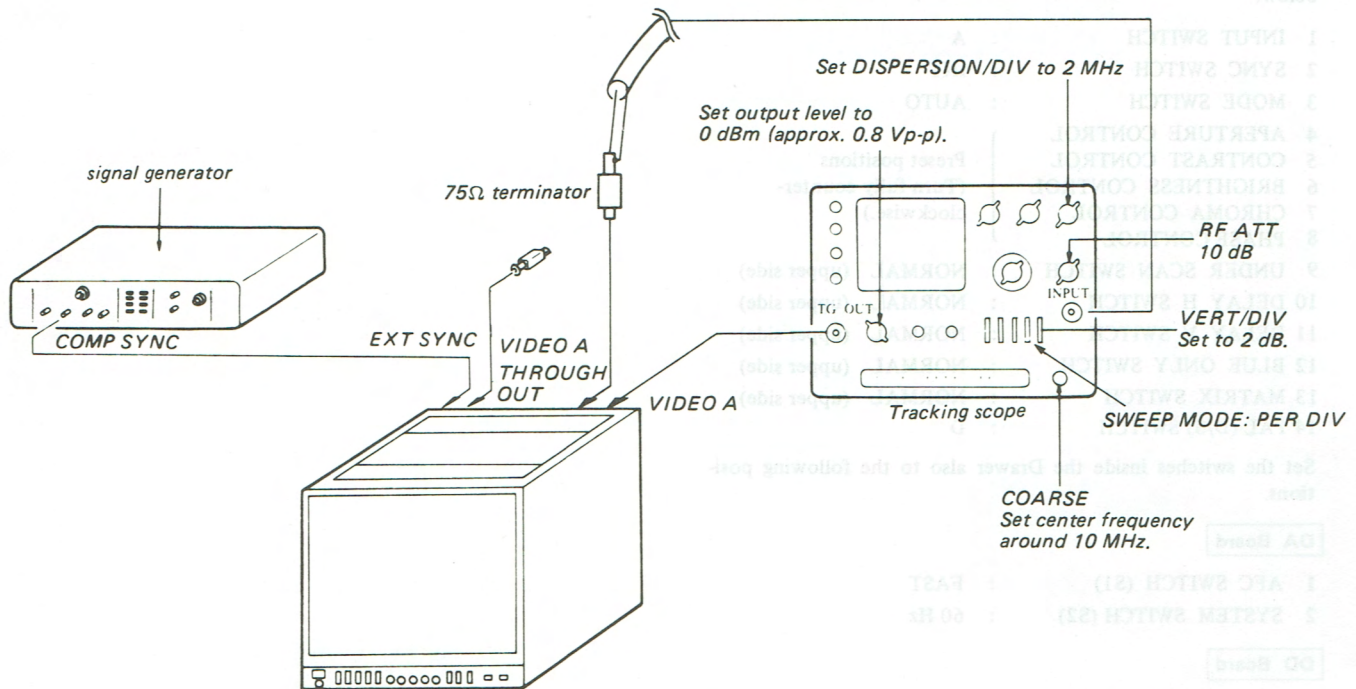

Fig. 1.
1. Connect as shown in Fig. 1. (Turn OFF power for the set)
6. If the F characteristics range is not flat according to item 5, calibrate the probe to make it flat.